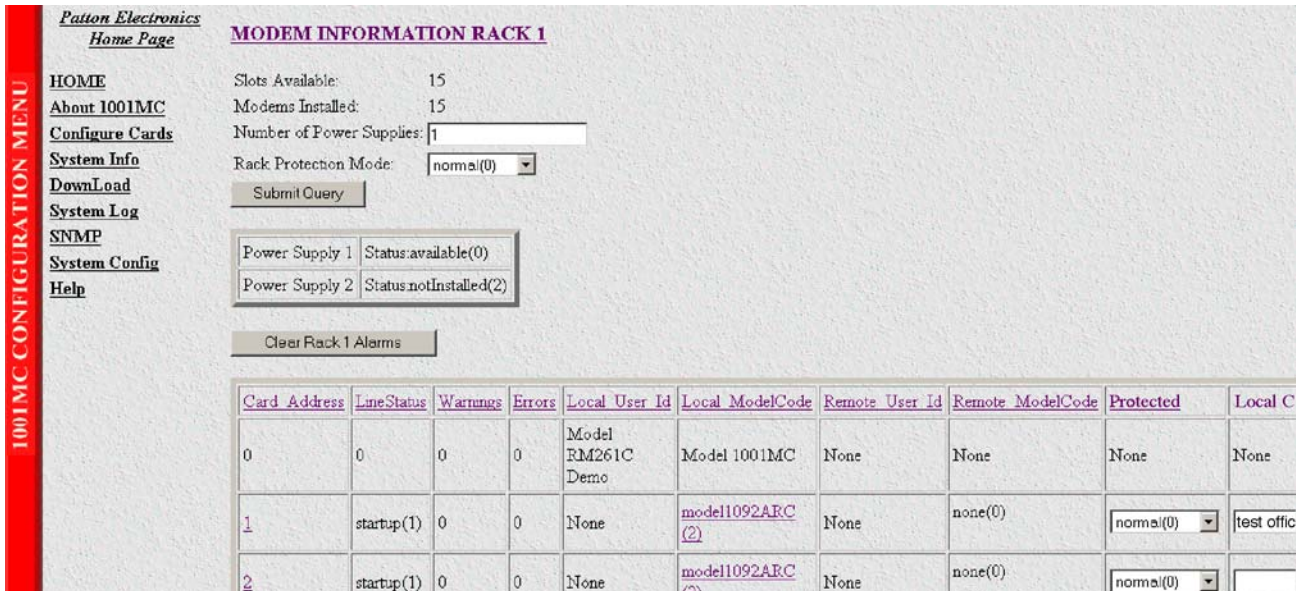
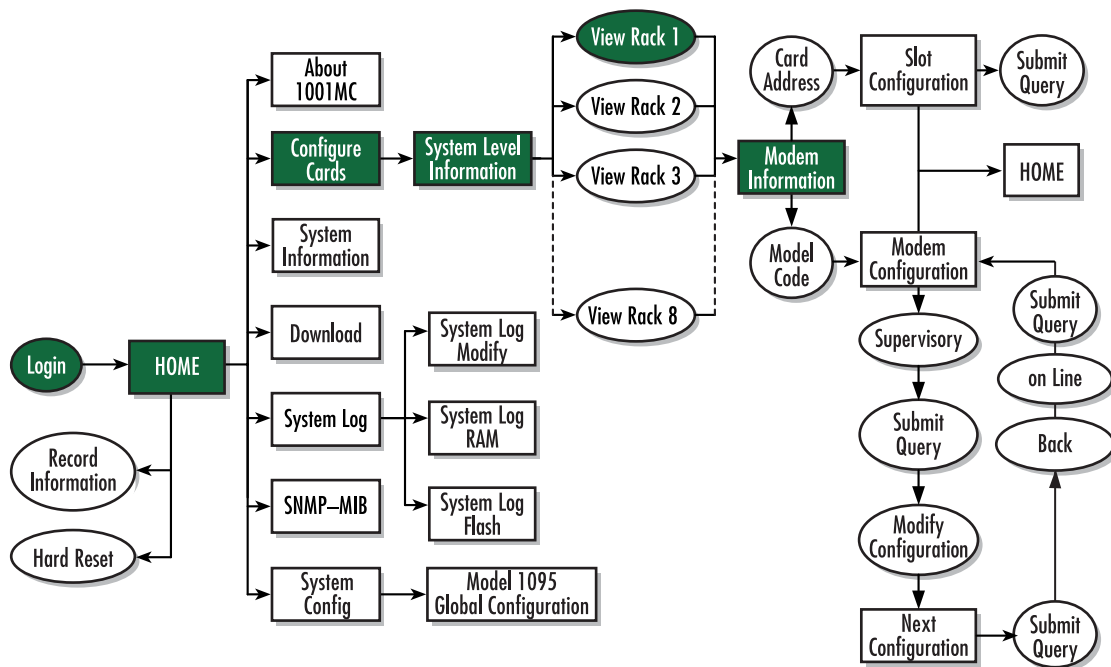

Figure 128. Modem Information Rack 1 page
Figure 129. Web page navigation to Modem Information Rack 1 page
1. Starting from the HOME page, click on the following links: *Configure Cards* > *View Rack 1* (choose the rack you want to protect, in the example shown in figure 128, rack 1 was selected). Figure 129 shows the web page navigation required to get to this area of the system.
2. Locate the card address (see figure 128 on page 262) of the Model 1095RC you want to protect.
3. Set the *Protected* pop-up menu (see figure 128 on page 262) to *protected(1)*.